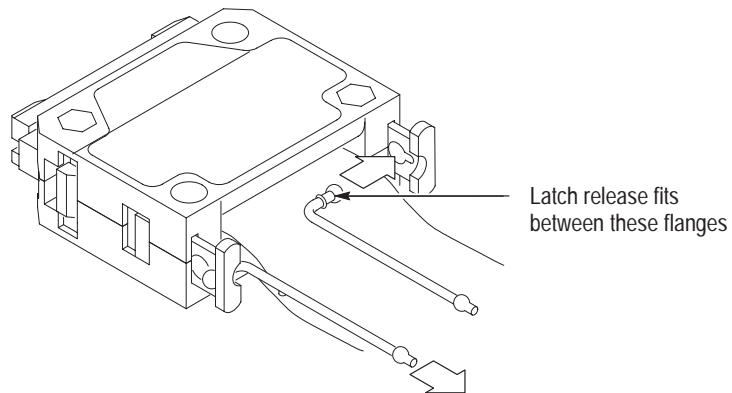

Figure 22: Reattaching the latch release cords to the latch releases
1. Place the latch release cords into the latch releases as shown in Figure 22.